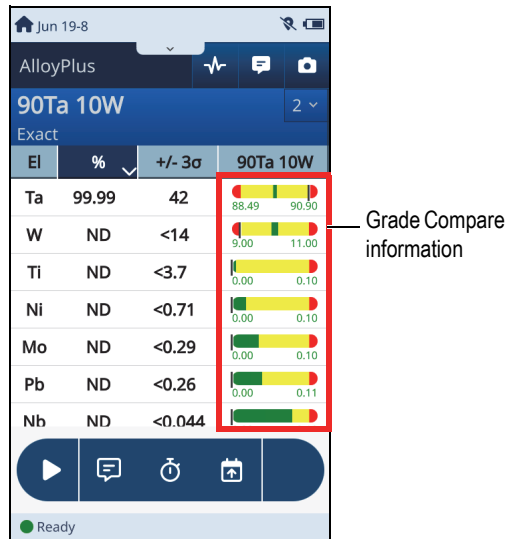

Figure 2-66 Grade Compare information in Live View
- A color-coded concentration bar for each specified element showing the upper and lower boundaries, and where the detected percentage falls within (or outside of) the boundaries (see Figure 2-66 on page 81).